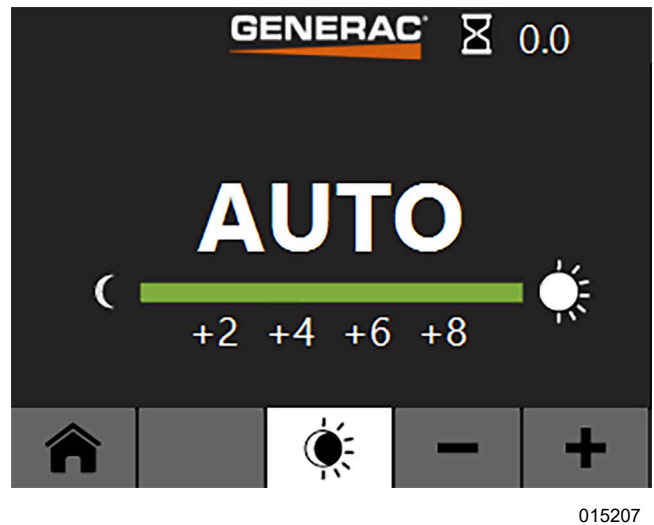

Figure 3-6. Dusk to Dawn Settings.
2. See **Figure 3-6**. To navigate to dusk to dawn setting press button (A). Adjust dusk to dawn settings using buttons (B). Adjust dusk to dawn setting to the desired hours of operation after dusk to dawn sensor turns on lights. If full auto is desired, set the unit the max setting and the display will show "Auto". In full auto the unit will turn on at dusk and turn off at dawn.